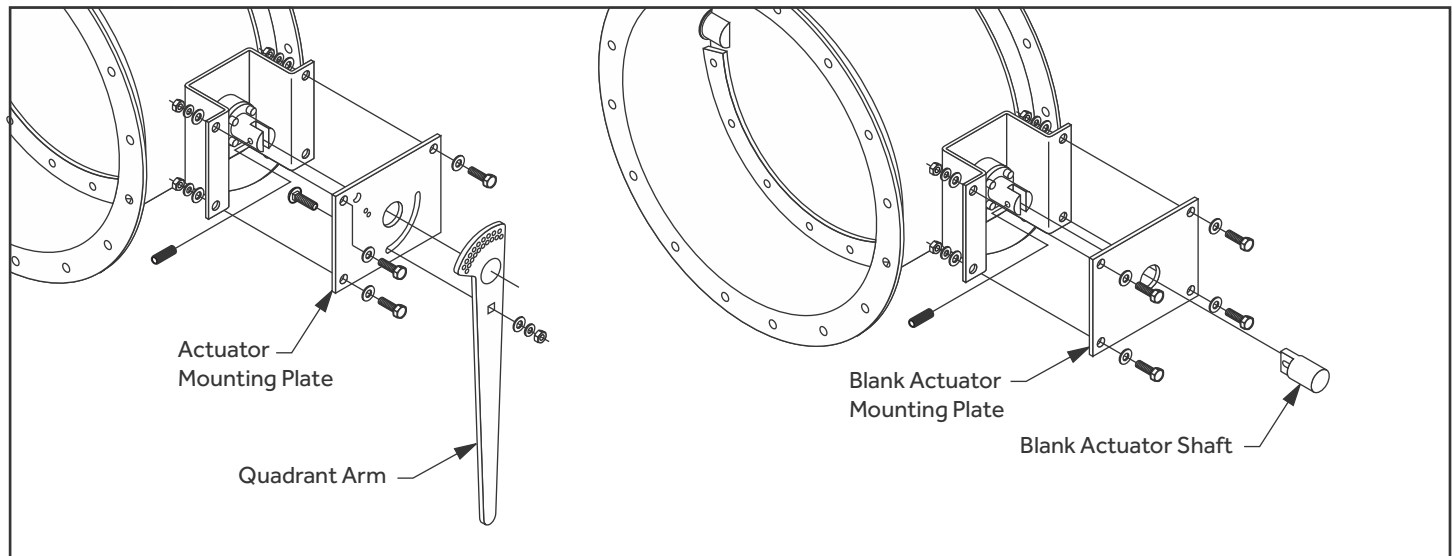

Fig. 52: 16" - 34" (406.4 - 863.6) Heavy Duty Industrial Damper Actuator Removal for Customer Supplied Actuator.
1. Remove Manual Actuator: For all sizes of dampers, reference the appropriate illustration to remove the manual actuator, mounting plate and actuator shaft. (Fig. 52, 53,54) Set these items aside.